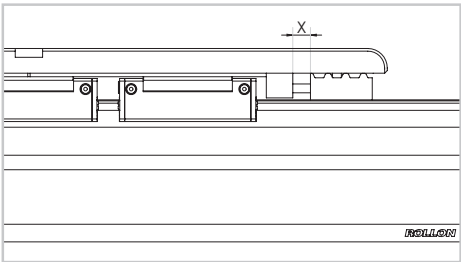

Fig. 2
1) Take the measurement of the distance X between the carriage and the belt tensioner (Fig. 2)